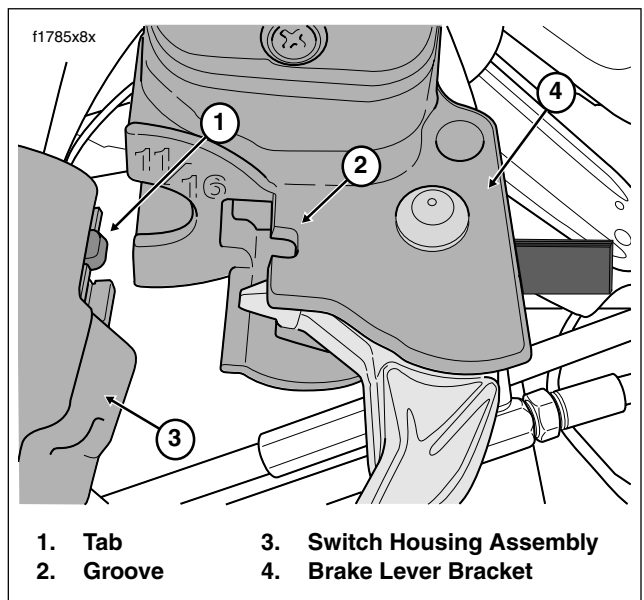

Figure 2-46. Fit Brake Lever/Master Cylinder to Right Handlebar Switch Housings
13. Position the brake lever/master cylinder assembly inboard of the switch housing assembly engaging the tab on the lower switch housing in the groove at the top of the brake lever bracket. See Figure 2-46.